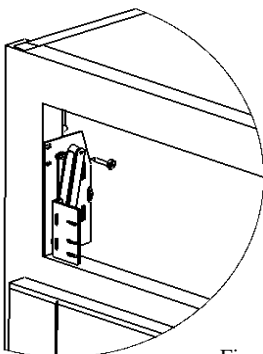

Figure 6
5. Installing the Tilt-out Tray (Figure 6): Install the tilt out hinge set (I) on the inside of frame. Continue to install the hinge to the drawer front (H). Finish by installing the trays on the back of drawer front.